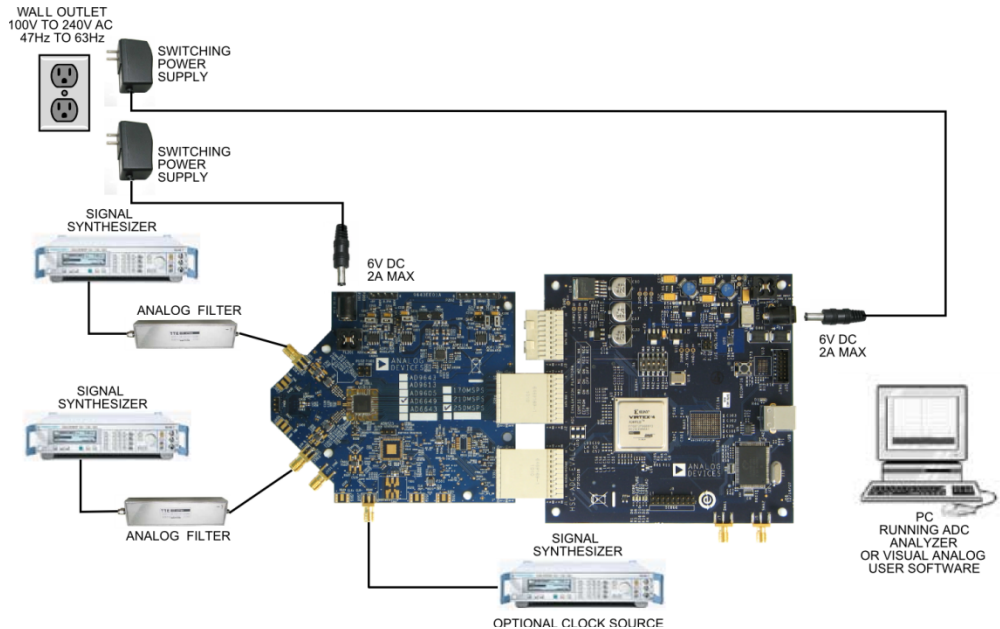

Figure 1: AD9613 Evaluation Board with HSC-ADC\_EVALCZ Data Capture Board
1. Connect the AD9613 evaluation board and the HSC-ADC-EVALCZ board together as shown in Figure 1.
9. Next open the SPI Controller software. If prompted for a configuration file, select the configuration file titled AD9613spiR03.cfg. If not, check the title bar of the window to see which configuration is loaded. If necessary, choose "Cfg Open" from the "File" menu and select one of the configuration files named above. Note that the CHIP ID(1) field may be filled whether the correct SPI Controller configuration file is loaded or not.
11. Set the DCO Clk Delay Enable checkbox in the FLEXOUTPUT DELAY(17) panel on the ADCBase0 tab as shown below. In addition, set the DCO Clk Delay register to the '600ps